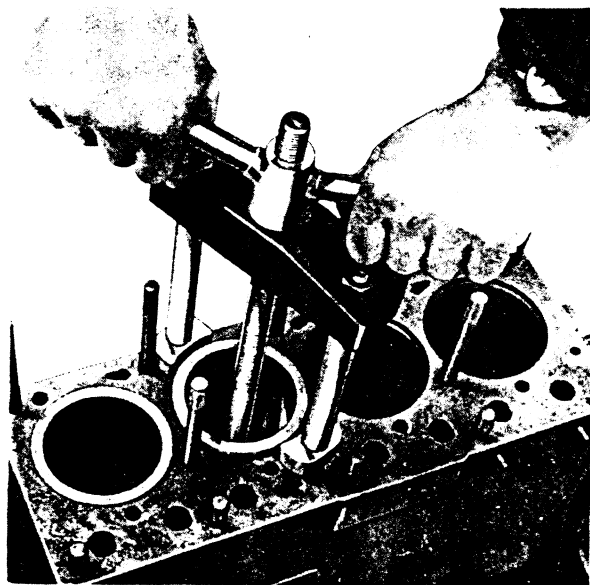

FIG. 32
4. Insert claw of service tool FT.1, Fig.32, with heavier side uppermost, and withdraw each sleeve.